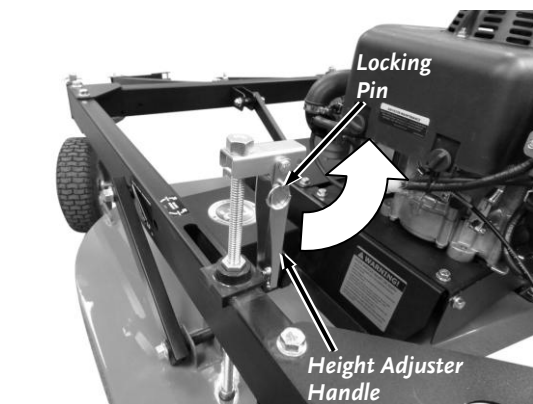

Figure 29
1. Remove the Locking Pin from the Height Adjuster (**Figure 29**).